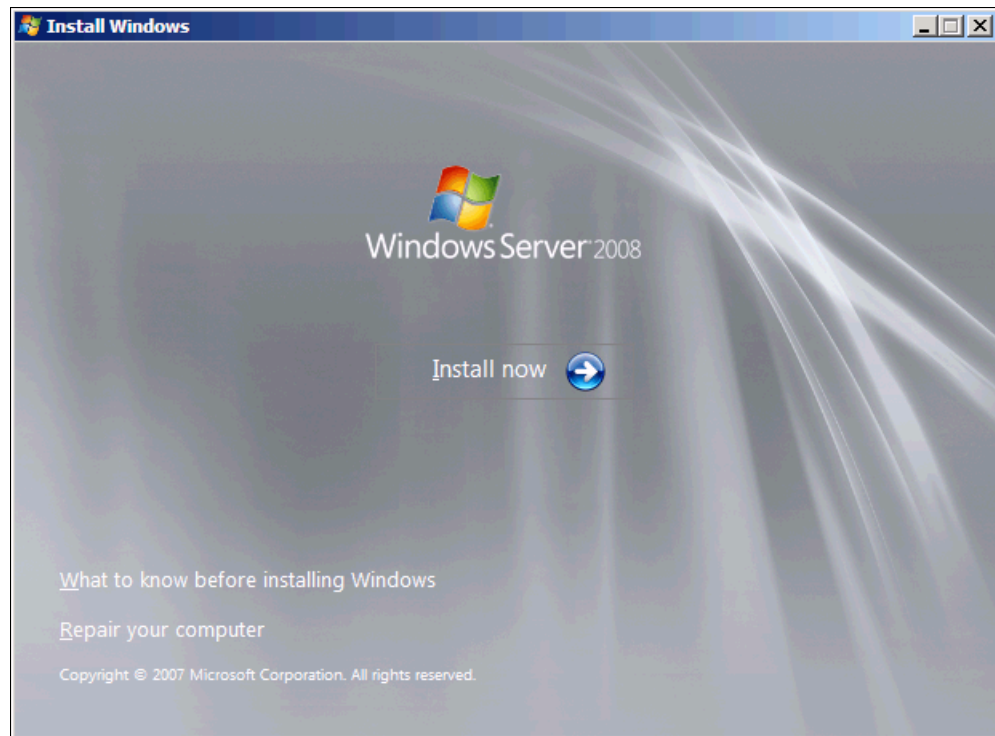

Figure 9-215 Install now button
3. In the Install Windows panel (Figure 9-215), select **Install now**.